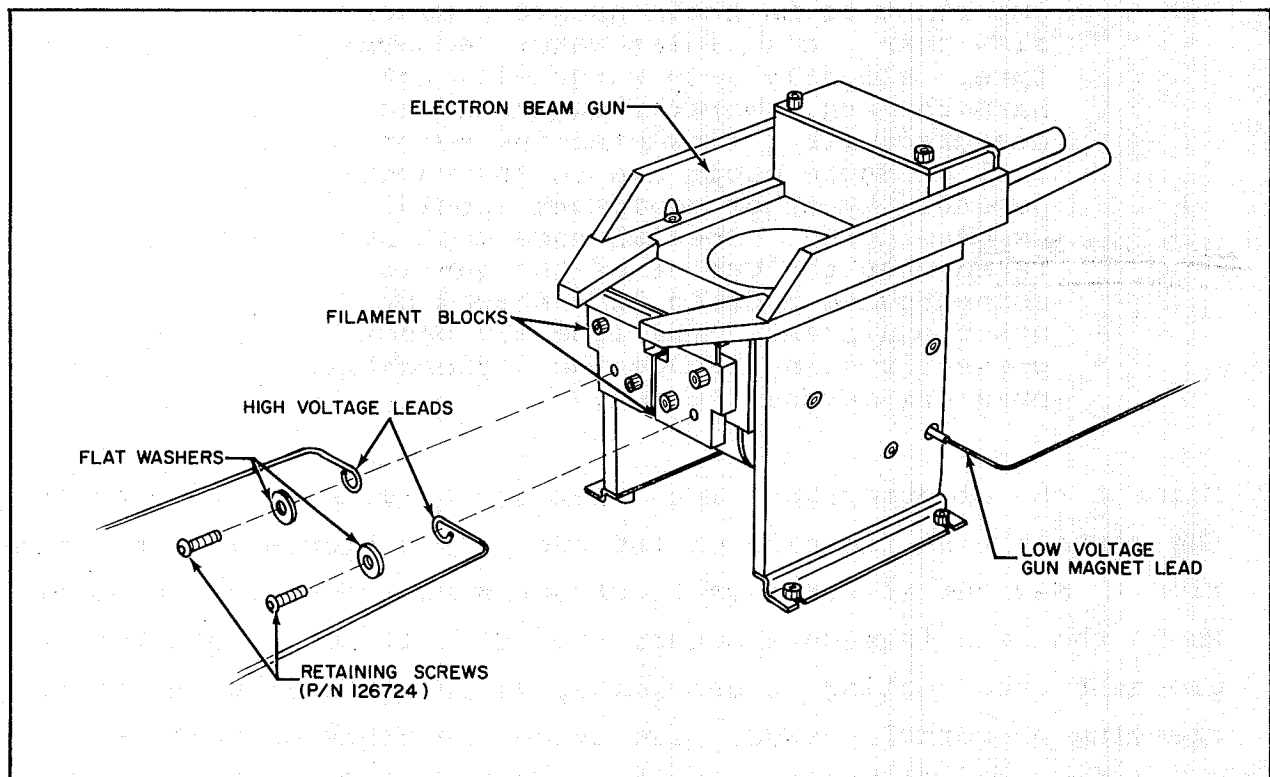

Figure 2-3. High Voltage Connections to Gun.
- (8) Connect the high-voltage leads from the high-voltage feedthrough(s) to the filament block of the gun. Bare solid #8 (3.26 mm dia.) copper wire should be used to provide low resistance and adequate rigidity. The leads connect to the filament block as shown in Figure 2-3. The ends of the wires should be looped as shown for positive retention, and should pass under the washer as shown. The retaining screws should be tightened with the 7/64" Allen wrench provided\*. The high-voltage lead screws and the filament screws are molybdenum-disulfide coated by a proprietary process to ensure long, trouble-free operation. All screws except those passing through the alumina insulating spacers should be recoated occasionally with molybdenum-disulfide spray. Use only uncoated screws in the spacers.